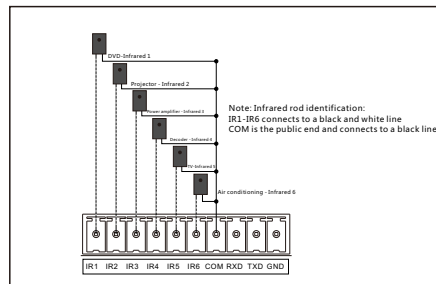

Figure 7. Infrared rod wiring
Product Wiring: See Figure 7 and 9
- Infrared interface: IR1, IR2, IR3, IR4, IR5, IR6, COM, the port is connected to the external infrared emission rod (black and white line is connected to IR1-IR6, black line is connected to COM) (see Figure 7).